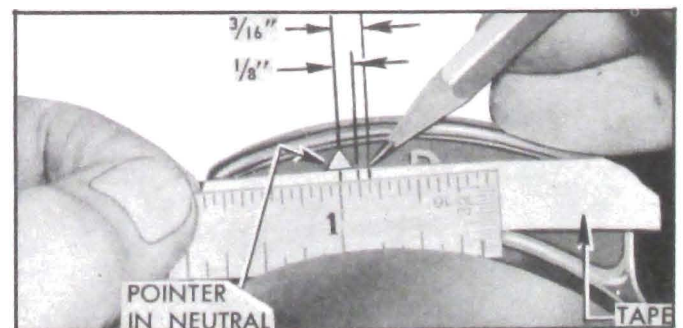

Figure 10-36—Marking Tape for Checking Switch Timing
5. Make two marks on masking tape at $\frac{1}{8}$ " and $\frac{3}{16}$ " from center of pointer. See figure 10-36.
6. Move control lever to driving (D) position, turn ignition on and depress accelerator pedal to close accelerator vacuum switch.